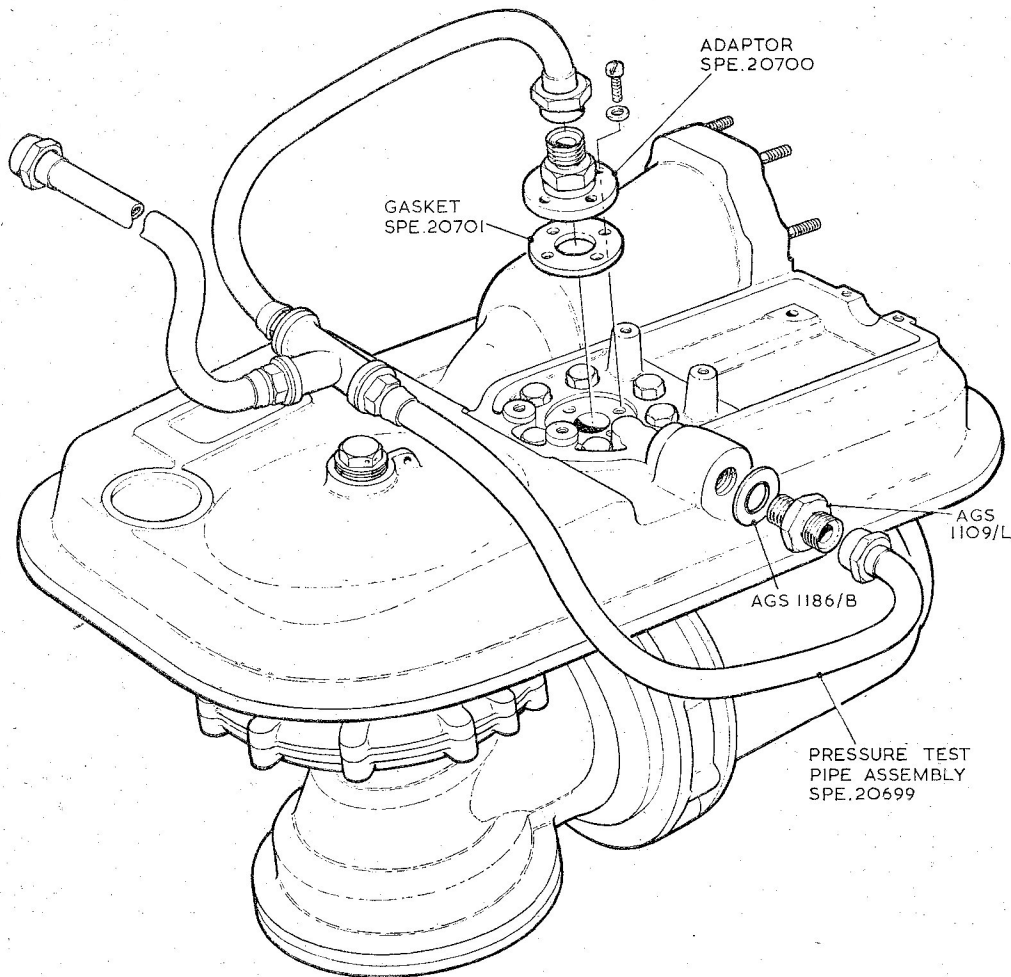

Fig. 18. Pump pressure testing
39. (1) Tuck the motor supply leads into the pump base casting and fit the adapter SPE.20700 and gasket SPE.20701 (fig. 18) to the casting with four 6 B.A. cheesehead screws. Connect up the pipe assembly SPE.20699 to this adapter and to the gland drain exit as illustrated in fig. 18.